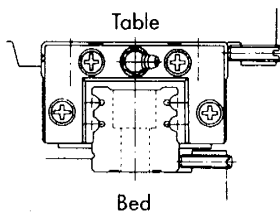

Fig. 54
- Fig. 54; Use a small bolt as the press plate, for units have limited space.